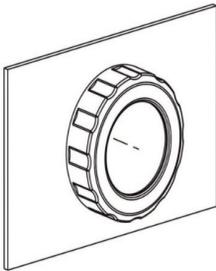

Figure 38 -
The external filter (Figure 38 and 39) contains the following elements:
1. Unscrew the washer (5) counterclockwise;
2. Remove the clip (4) from the base of the filter;
3. Remove the sealing ring (2) from the holder;
4. Carefully remove the filter element (3), avoiding surface creases;
6. Install the filter element into the clip. The "smooth" side of the filter element should face the clip as shown in Figure 38;